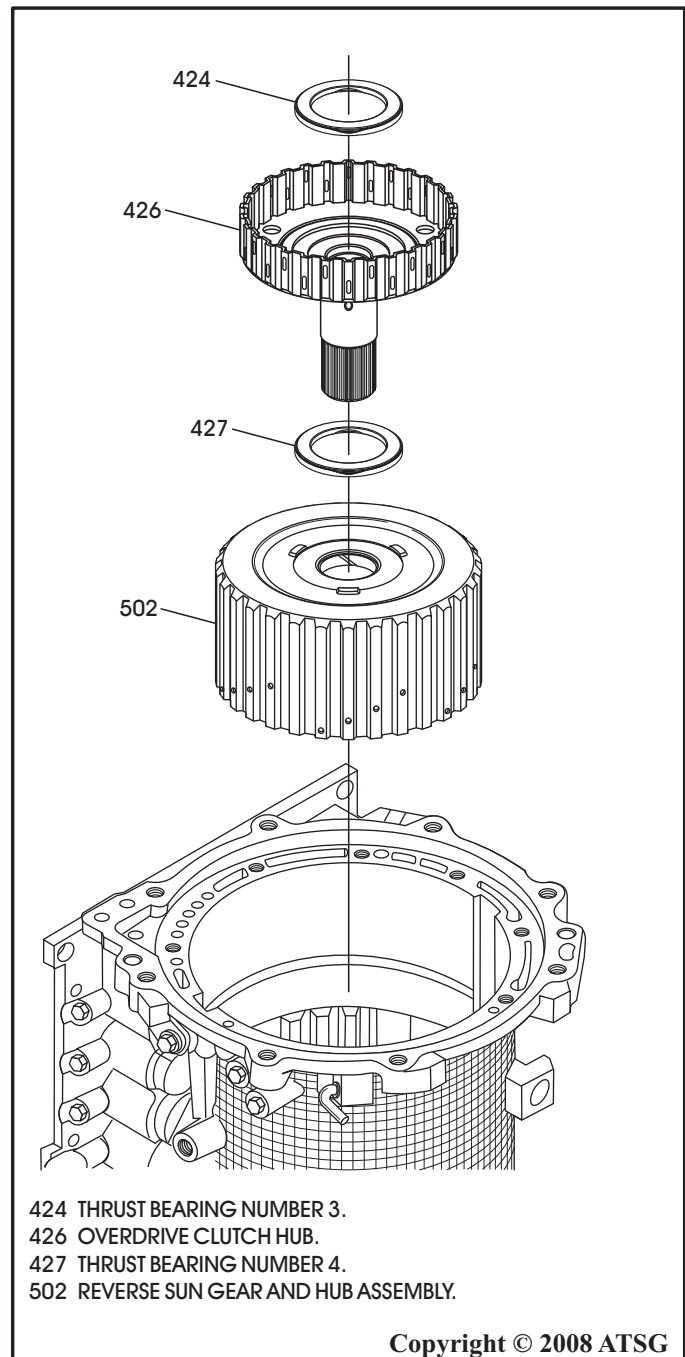

Figure 48
31. Remove the number 3 thrust bearing, as shown in Figure 48.
32. Remove the overdrive clutch hub and shaft, as shown in Figure 48.
33. Remove the number 4 thrust bearing, as shown in Figure 48.
34. Remove the reverse sun gear and reverse hub assembly, as shown in Figure 48.